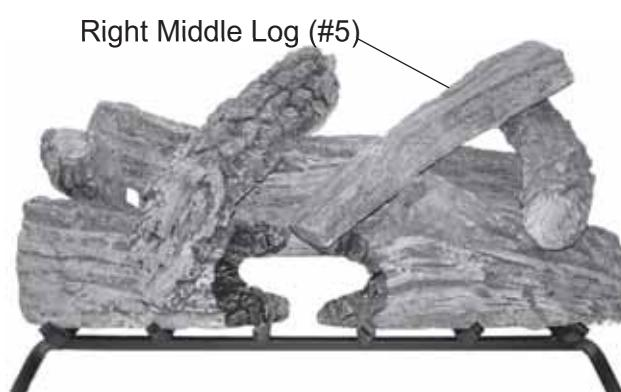

Figure 119 - Installing Right Middle Log (#5)
8. Place front of Right Middle Log #5 on top right of Log #1B. Rest back end of Log #5 on top right of Log #4. See Figure 119.